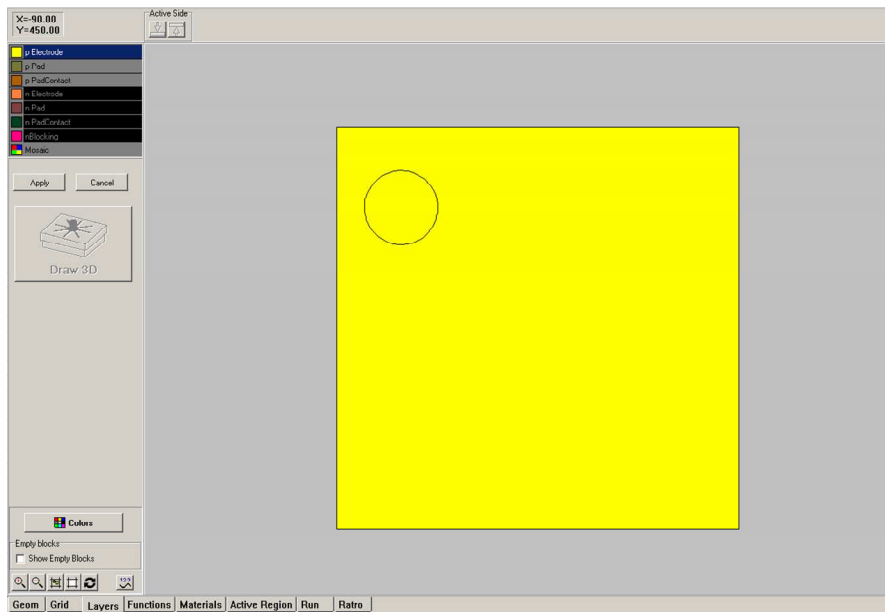

Fig. 28
**p-electrode.** Area of the metal p-electrode (see Fig. 28).